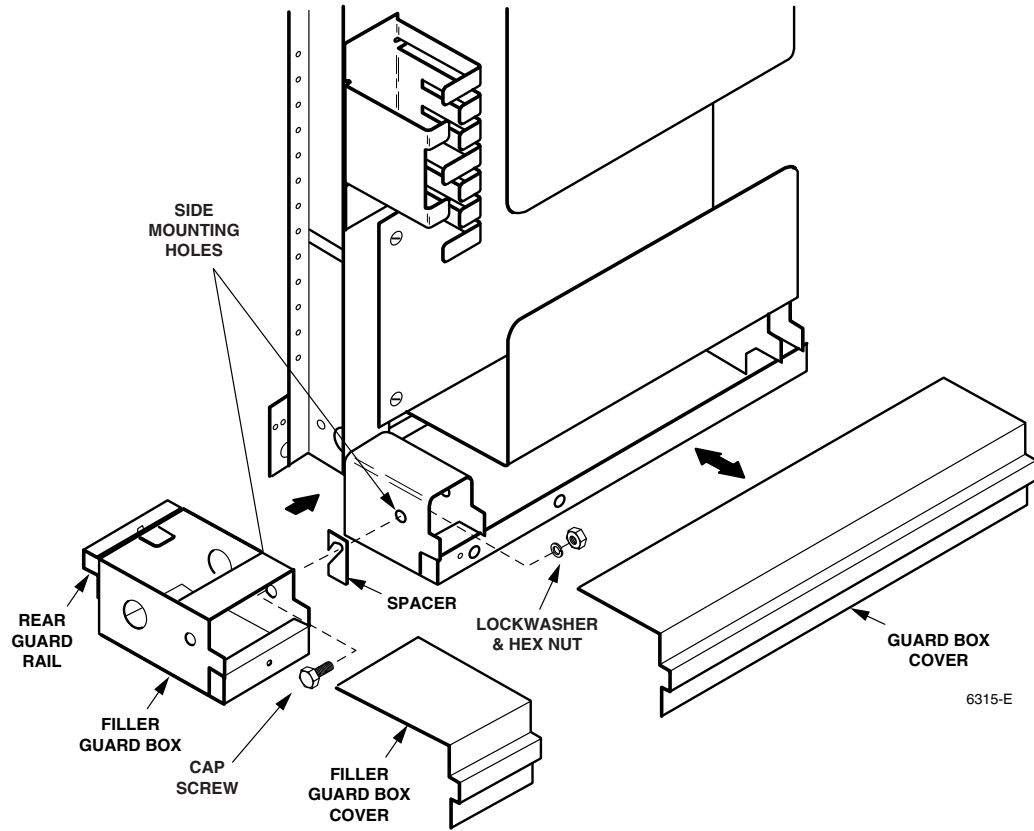

Figure 3. Filler Guard Box Installation (4-Inch Guard Box Shown)
3. Remove the guard box cover from the base of the adjacent frame, as shown in Figure 3. Set aside the cover screws for re-use when reinstalling the cover.